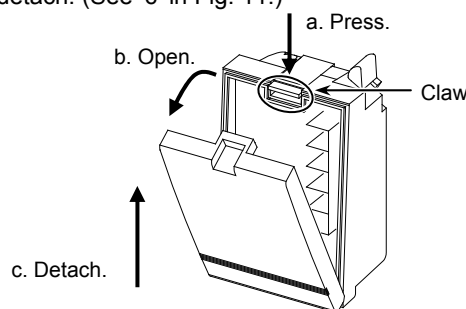

Figure 11. Detaching the front cover
- 1) Open the front cover by pressing the claw of the case. (See 'a' in Fig. 11.) At this time, open 30 degree wide or wider. (See 'b' in Fig. 11.) Then lift the front cover to detach. (See 'c' in Fig. 11.)